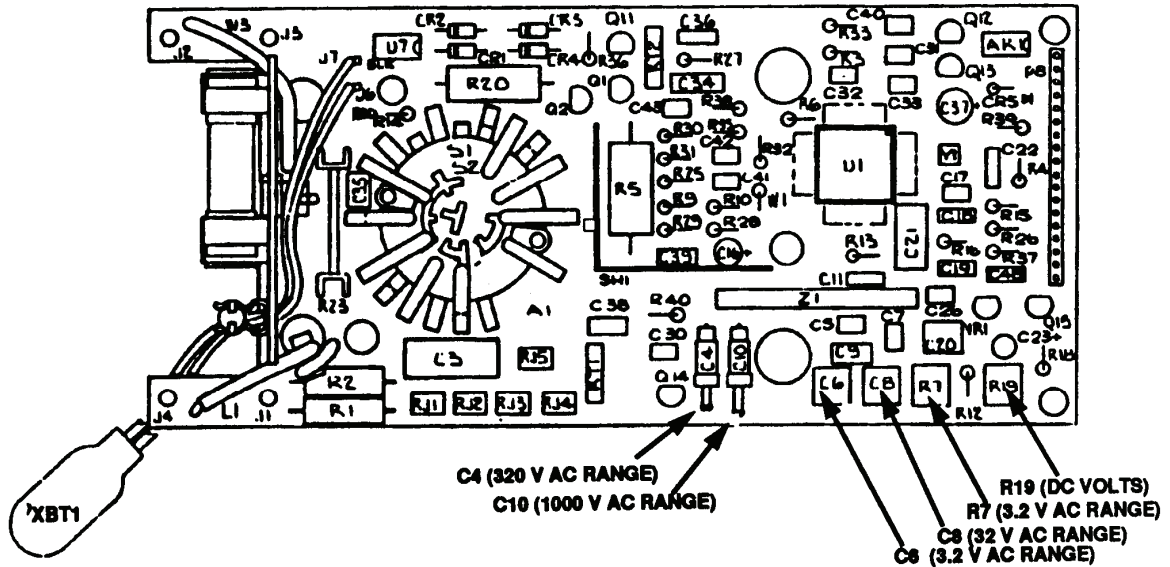

Figure 1. Adjustments locations.
- (1) Set function switch to dc V.
- (2) Set calibrator for a 2.7 V dc output.
- (3) Press **RANGE** pushbutton for 3.2 V range.
- (4) Adjust R19 (DC VOLTS) (fig. 1) until TI indicates 2.700 V dc (R).
- (1) Set function switch to ac V.
- (2) Set calibrator for a 2.7 V, 100 Hz output.
- (4) Adjust R7 (3.2 V AC RANGE) (fig. 1) for a 2.700 V ac ± 0.001 V ac TI indication (R).
- (5) Press **RANGE** pushbutton for 320 V range.
- (6) Set calibrator for a 270 V, 10 kHz output.
- (7) Adjust C4 (320 V AC RANGE) (fig. 1) for a 270.0 V ac ± 0.1 V ac TI indication (R).
- (8) Press **RANGE** pushbutton for 1000 V range.
- (9) Set calibrator for a 1000 V, 10 kHz output.
- (10) Adjust C10 (1000 V AC RANGE) (fig. 1) for a 1000 V ac ± 1.0 V ac TI indication (R).
- (11) Set calibrator for a 27 V, 10 kHz output.
- (12) Press **RANGE** pushbutton for 32 V range.
- (13) Adjust C8 (32 V AC RANGE) (fig. 1) for a 27.00 V ac ± 0.01 V ac TI indication (R).
- (14) Set calibrator for a 2.7 V, 10 kHz output.
- (15) Press **RANGE** pushbutton for 3.2 V range.
- (16) Adjust C6 (3.2 V AC RANGE) (fig. 1) for a 2.700 V ac ± 0.001 V ac TI indication (R).
- (17) Set calibrator for a 2.7 V, 100 Hz output. Verify that TI indicates 2.700 V ac ± 0.017 V ac.